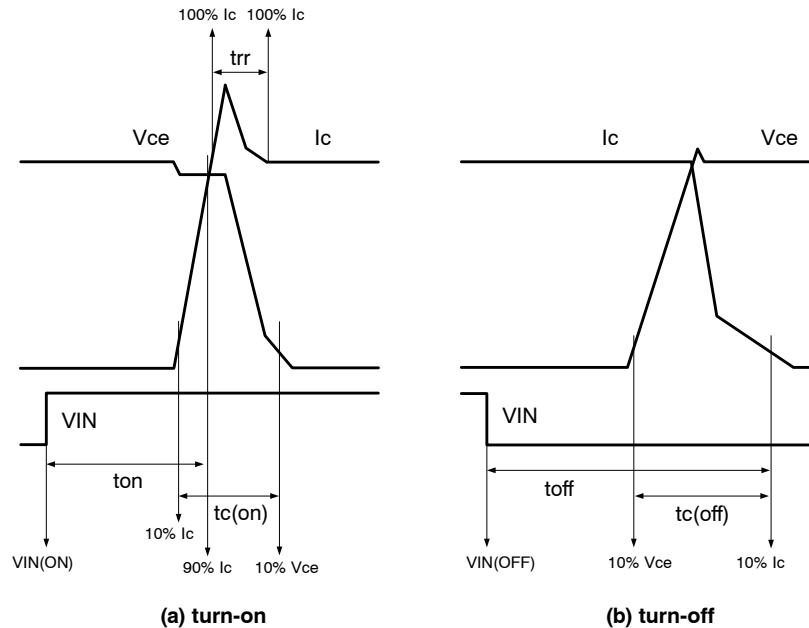

Figure 3. Switching Time Definition
- ton and toff include the propagation delay of the internal drive IC. tc(on) and tc(off) are the switching times of IGBT under the given gate-driving condition internally. For the detailed information, please see Figure 3.